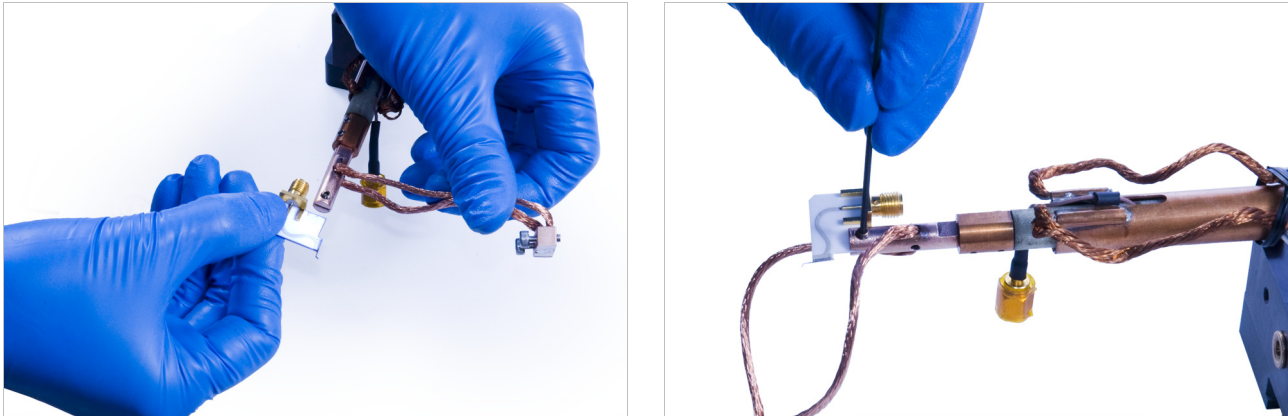

FIGURE 3-35 Left: Slide the blade into its slot; Right: Carefully tighten the probe mount set screws
- b. Slide the new blade all the way into the probe slot (FIGURE 3-35). Its bottom edge should be square and flush with the bottom of the probe mount. Hold the new blade in position.
- d. Rotate the probe mount and tighten the opposing set screw, keeping the blade all the way back in its slot and flush to the probe mount (FIGURE 3-35). Tighten the screw until the blade does not move with finger pressure. Be careful not to over-tighten, as the alumina is delicate and will crack. Rotate the probe back to the upright position.